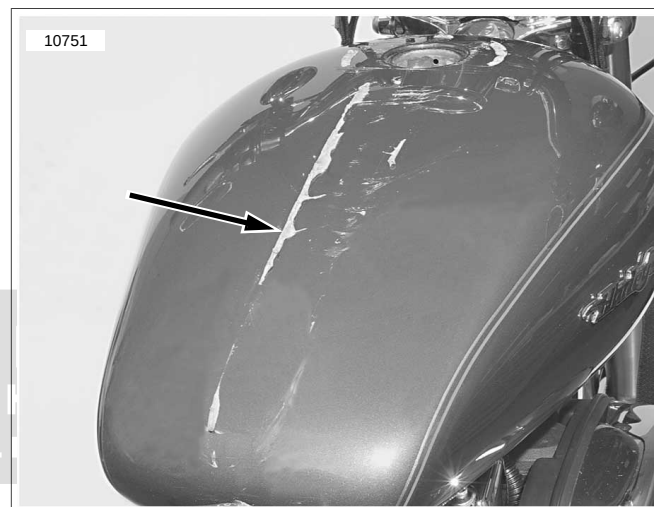

Figure 4-15. Removing Adhesive Residue
6. See Figure 4-15. To remove any adhesive residue remaining on the fuel tank surface: